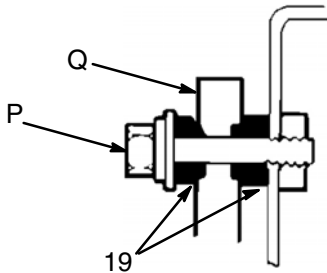

Fig. 2
Use 1/4 in. diameter mounting screws (P) to install the heat insulators (19) on each side of the bolt holes in the heater housing (Q). See Fig. 2. Mount the heater near the object to be sprayed, but outside the spray area. Be sure the surface on which you mount the heater can support the weight of the heater, filters, hoses, and fluid. See the **Dimensions** on page 22 and **Technical Data** on page 20.